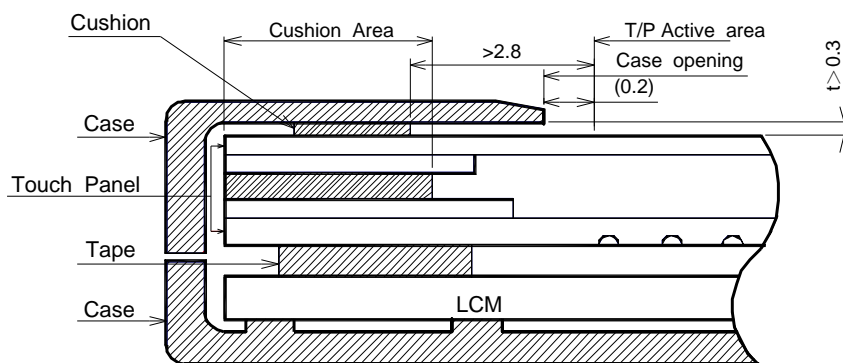

Fig. 13.1
- 1) Please refer to Fig. 13.1 for housing the display with touch panel into applications. The Fig. 13.1 shows some points as below: